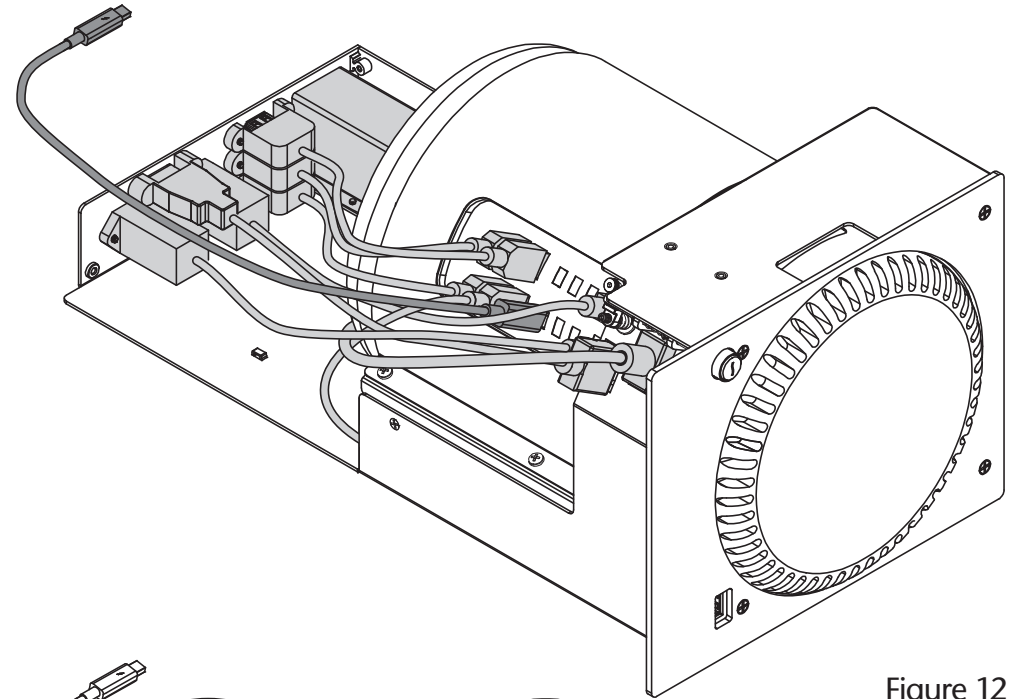

Figure 12
6. Connect the computer mounting module's Gigabit Ethernet, HDMI, power, and USB 3.0 cables to the corresponding ports on the computer (Figure 12).
7. Connect the included Thunderbolt cable plus any other Thunderbolt cables to the computer, and then secure them to the computer mounting module's cables (Figure 12).